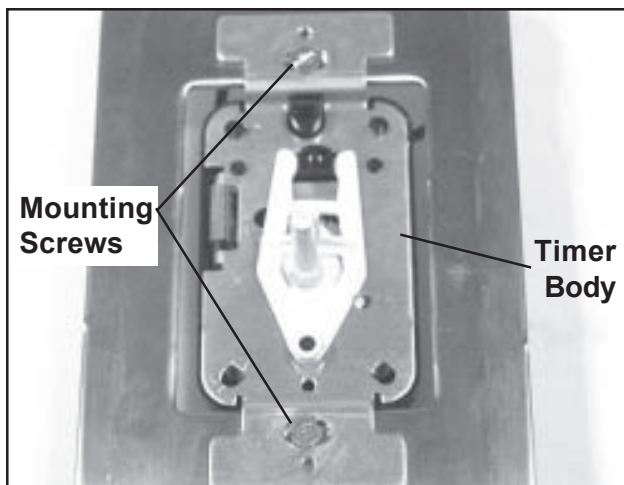

Figure 37. 24-hour Timer - Removing Timer Body
9. With a flat-blade screwdriver, remove the two mounting screws and lift out the timer body (Figure 37).
1. Place the new timer body into the switch plate (Figure 37) and secure with the two screws removed earlier.